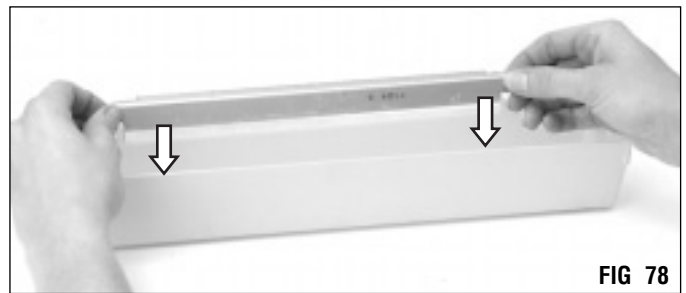

FIG 78
8. Dip the edge of the wiper blade in Kynar®. (FIG 78)